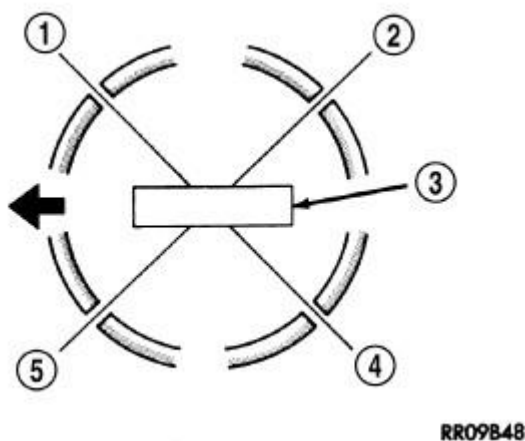

Fig. 122: Positioning Piston Ring End Gaps
12. Position piston ring end gaps as shown in **Fig. 122**. It is important that expander ring gap is at least 45° from the side rail gaps, but not on the piston pin center or on the thrust direction.